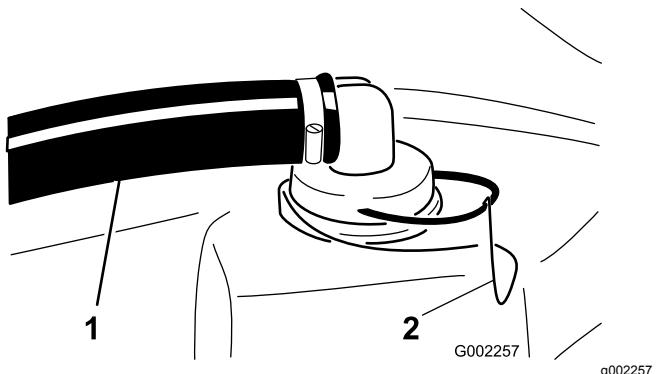

Figure 48
2. Remove the retainer from the red fitting attached to the large hose on the top of the tank (Figure 48).
3. Disconnect the hose from the tank (Figure 48).